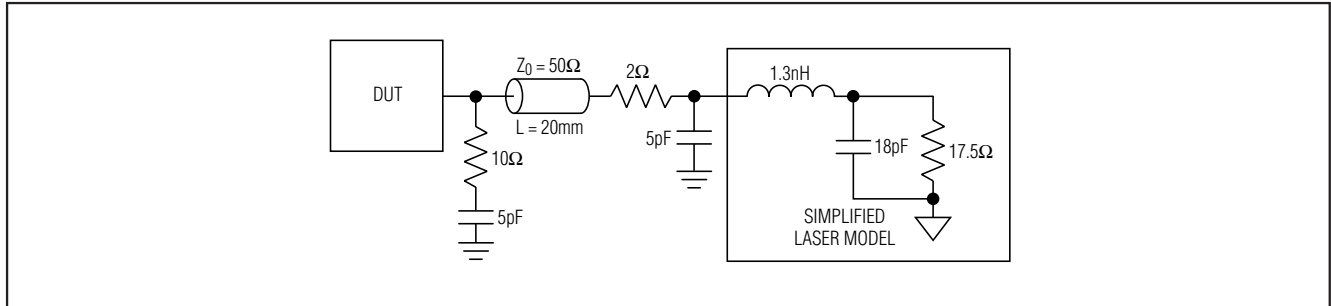

图1、信号上升和下降配置
**Note 8:** A compensation network to match the laser diode is required to achieve the overshoot specifications, otherwise the overshoot can be significantly higher. (See Figure 1.)